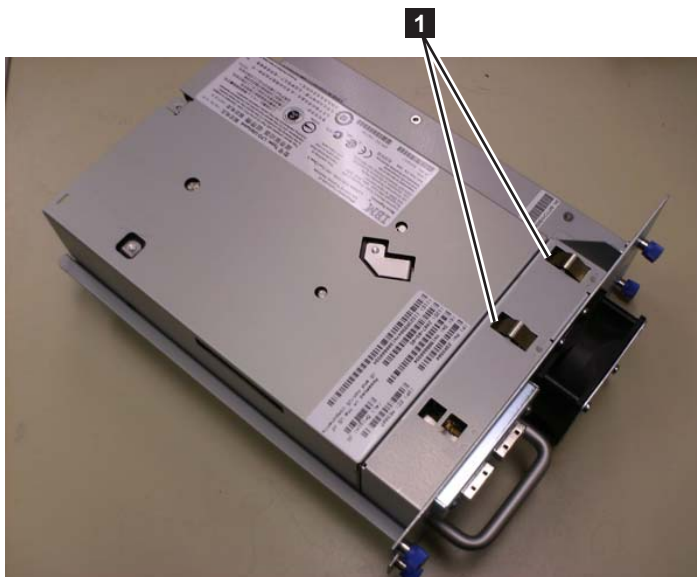

Figure 10-5. Library drive sled with ESD springs [1] (SAS sled shown)
- Drive sled with ESD springs (see Figure 10-5) ship group: